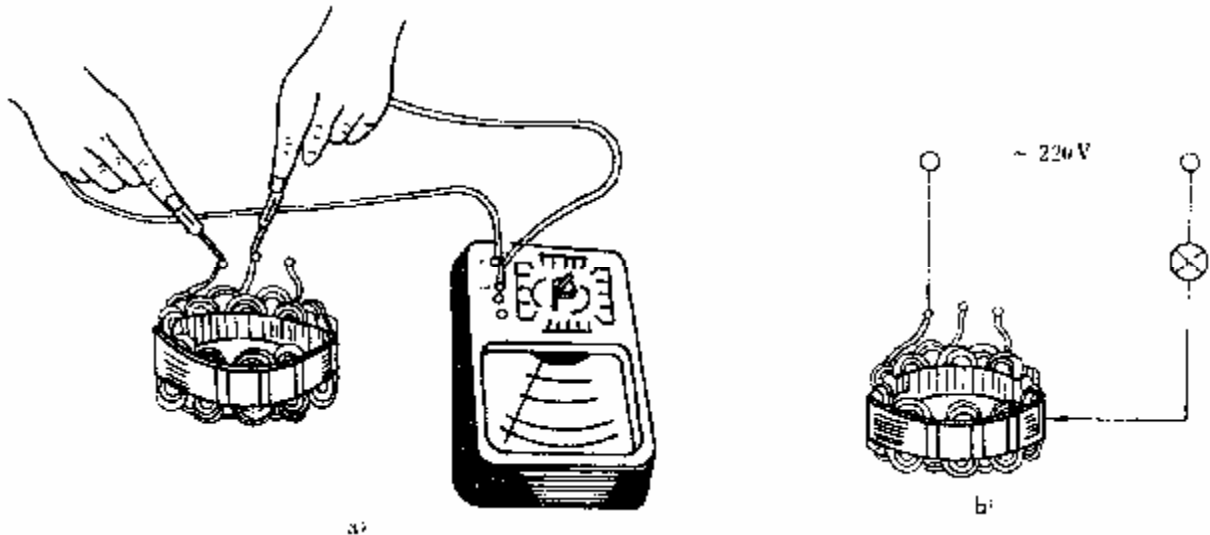

Figure 11-6 Check Stator Winding
(1) Check and repair stator winding. Open circuit can be checked with a multimeter ($R \times 1$), use multimeter probes to touch three outlet stubs respectively as indicated in figure 11-6. It is normal if pointer stays below 1Ω . But there must be an open circuit if the pointer remains still.